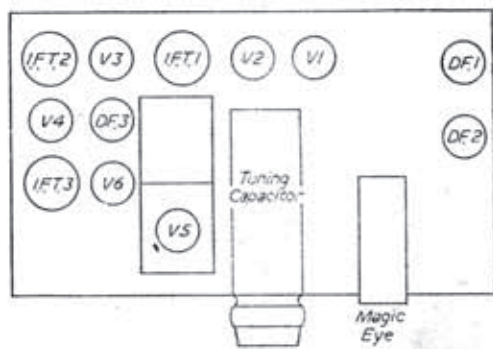

Fig. 2: Layout of some of the major components.
It now only remains to connect an aerial, and it will be noticed that there are two. On the aircraft were three aerials: a loop aerial for use in direction-finding (DF), a fixed aerial used on ranges 3, 4 and 5. As range 3 covers the majority of the medium waveband, this will be the easiest for checking, so the aerial should be connected to pin 2. During this operation of checking, the M.F. Valves may be removed. These may be located with reference to **Fig. 2**. The functions of the valves are as follows:
The medium frequency (MF) direction finding (DF) circuits operate almost independently of the main receiver (although some components are common to both h.f. and MF Circuits). The valves concerned are three in number – two VR99A triode hexodes (DF1 and DF2 in Fig. 2.), and one VR101 double triode (DF3 in Fig. 2). The former are aerial switching valves and the latter a meter switching valve.
It will be found easiest to commence dismantling operations with DF1 and DF2, which can be located by reference to Fig. 2. A start can be made by removing the two multiple capacitors ($0.1 + 0.1 + 0.1\mu\text{F}$) situated between the two valve holders. Next remove the common cathode resistor (240Ω) and the other leads can then be cut off. It will be found that some of these leads terminate at a transformer located beneath the magic eye.
Next, we may deal with the meter switching valve, and its position may be located with reference to Fig. 2. (This valve is DF3). All wires except the ones to pins 2 and 7 should be cut. This leaves the heater connections intact for a valve to be added later. Leads again may be traced back to the source and removed.